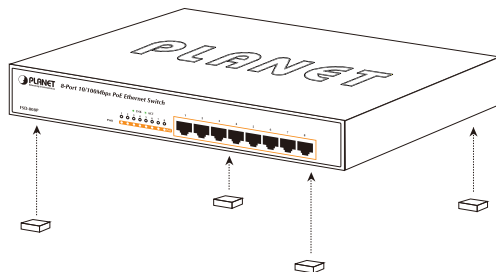

Figure 3-1: Attaching the Rubber Feet to the POE Fast Ethernet Switch
**Step 1:** Attach the rubber feet to the recessed areas on the bottom of the Switch, as shown in Figure 3-1.